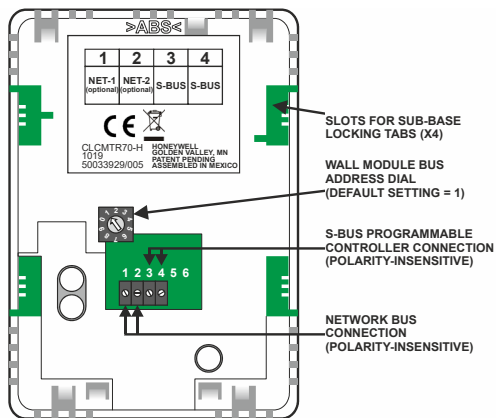

Fig. 1. LYNX wall module components (rear view)
Attach the wires from the LYNX controller and the bus to the appropriate wall module terminals, as indicated in Fig. 1.
Wire the terminal block shown in Fig. 1 as follows:
4. Review and verify the terminal connection wiring illustrated in Fig. 1.
Fig. 1 shows the location of the terminal block and other features on the CLCMTR7x and CLCMTR7x-H wall modules.
For BACnet communication, the building's BACnet wires connect to the two terminals (NET-1 and NET-2). See Fig. 1. A BACnet bus port is accessible at the bottom of the wall module by removing the jack plug.
The BACnet Bus, LONWORKS Bus, and S-BUS (see Fig. 1) are insensitive to polarity, minimizing installation errors due to mis-wiring. The recommended wire size for the BACnet Bus, LONWORKS Bus, and S-BUS is Level IV, 22 AWG (0.33 sq. mm) plenum or non-plenum rated, unshielded, twisted pair, solid conductor wire.